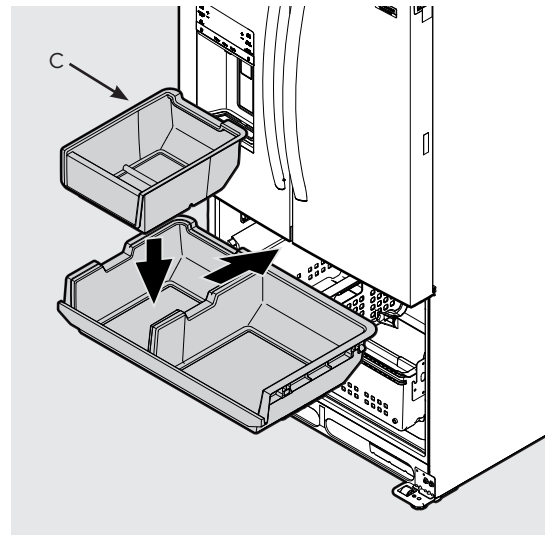

Figure 4
9. Put Ice Bucket (C) on basket as shown in Figure 4.